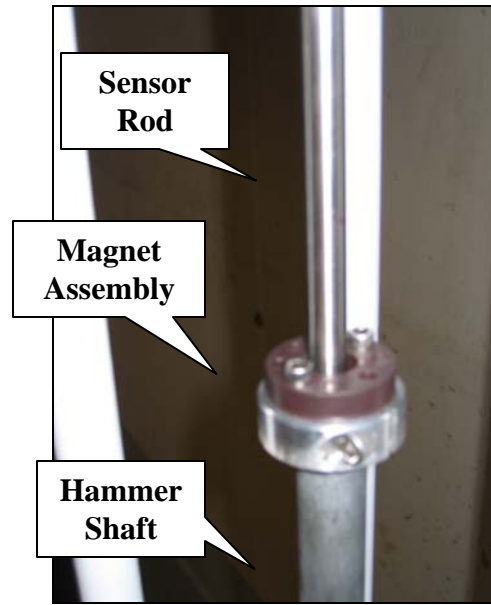

Figure 3. Concentric Alignment of Sensor Rod, Magnet, and Shaft.
6. Lower the hammer shaft, ensure the nine set screws at the base of the sensor mount are flush with the bottom, and then carefully set the SCA sensor mount on top of the tamper while guiding the sensor rod into the magnet. Figure 3 shows the necessary alignment of the sensor rod, magnet assembly, and hammer shaft.